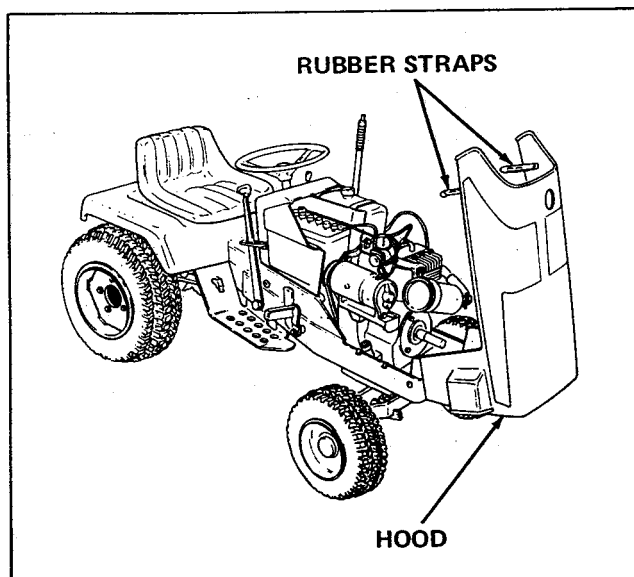

Figure 16. Raising the Hood
The hood may be raised to the position shown in figure 16. With the hood raised, parts in the engine area are easily reached. Raise the hood as follows:
1. Pull the rubber straps (figure 16) down and away from the hold-down pins.
2. Raise the hood to the position shown in figure 16.